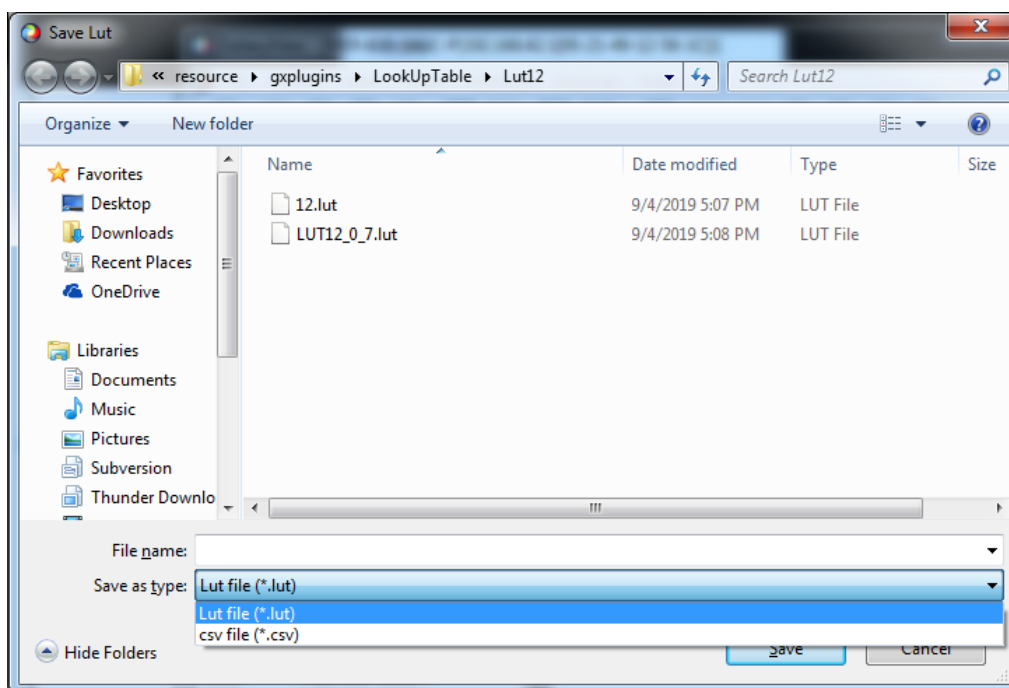

Figure 9-8 Save to file
1. When selecting " Save To File ", the current Lut data can be saved to the file. The saved file contains two formats: Lut and csv, as shown in Figure 9-8.